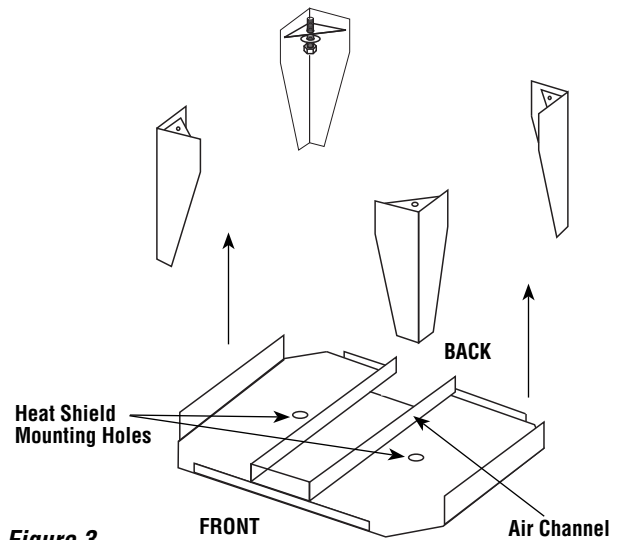

Figure 3
4. Use the two bolts and washers provided with the heatshield kit to mount the heatshield as shown in *Figure 3*.